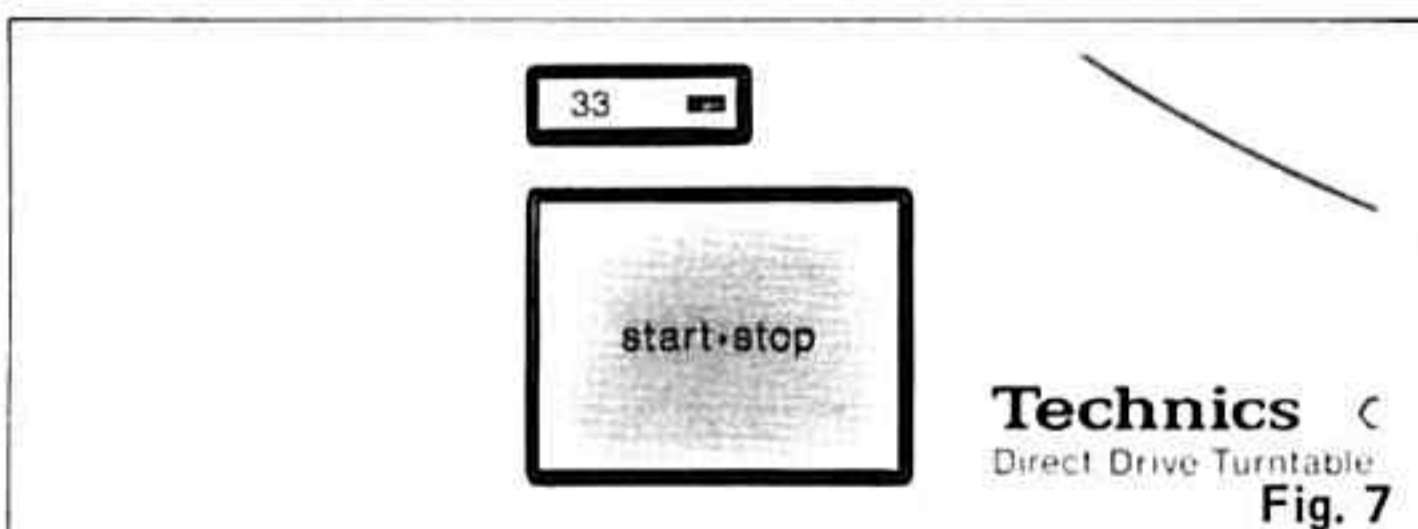

Fig. 7
2. Place a record on the turntable mat. Push the start • stop button. (See Fig. 7.) The turntable platter will begin to rotate and reach its constant rotation speed 0.4 sec. (33-1/3 rpm.).